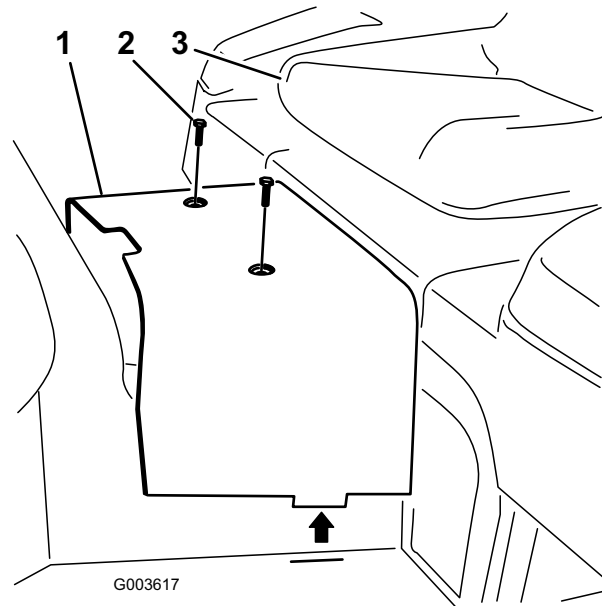

Figure 2
4. Remove the socket head screws securing the center shroud to the frame (Figure 2). Remove and retain the shroud.